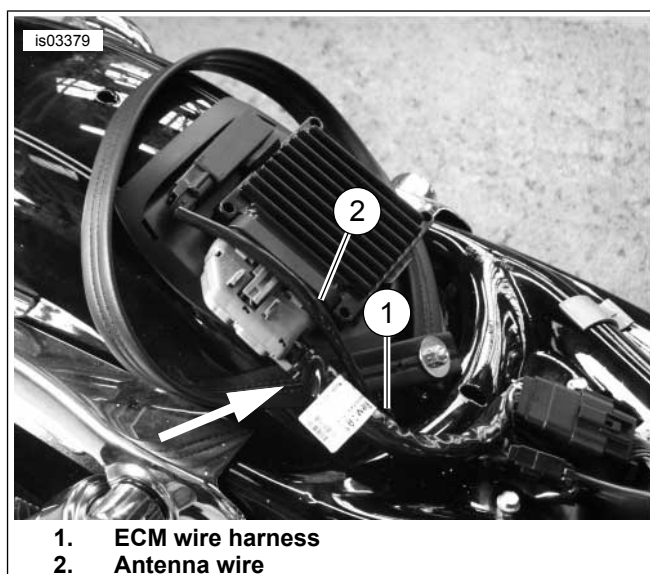

Figure 5. Grabstrap Routing Under Wires (2007-2009)
2. See Figure 5. *2007-2009 models:* Route grabstrap under ECM wire harness (1) and antenna wire (2). It is important to route grabstrap **under** wire harness and antenna wire so it does not interfere with wiring. If grabstrap is routed over wires, contact may occur when seat is fully installed. *All other models:* Loop grabstrap around top of rear fender.